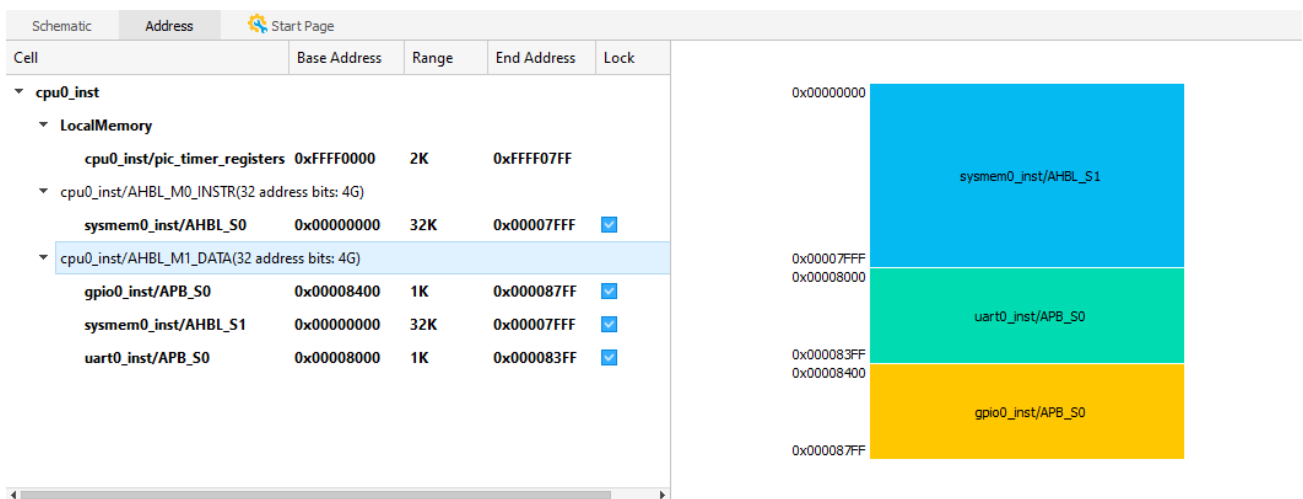

Figure 2.74. Address View
1. In the Propel Builder main window, click the Address tab. The Address view (Figure 2.74) shows.